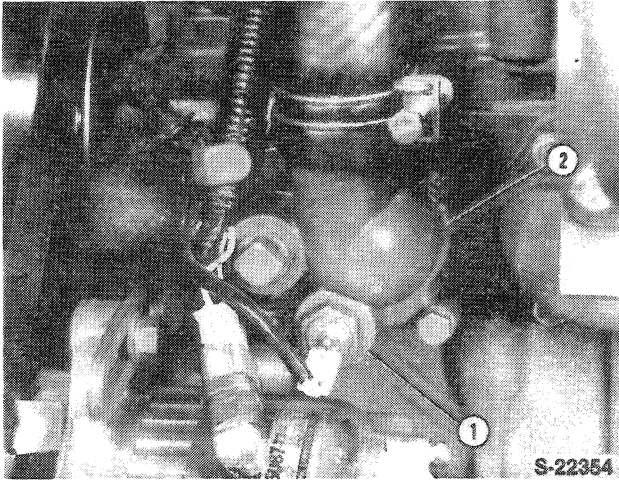

Figure 6
- 9. Remove the temperature sender switch, Figure 6.